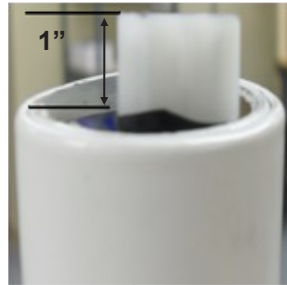

Figure 7: Top of the post.
- Pull the cable through the opening at the top of the post, until connector is barely visible. Refer to Figure 7.